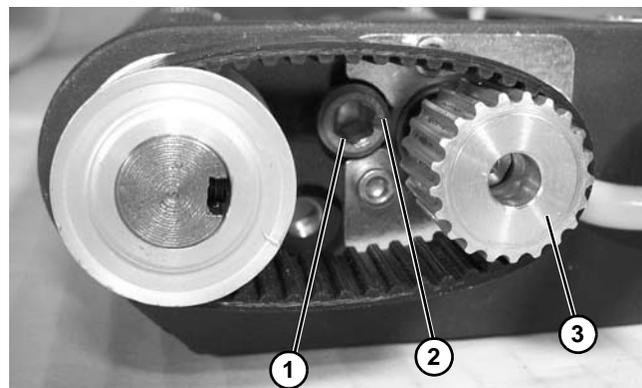
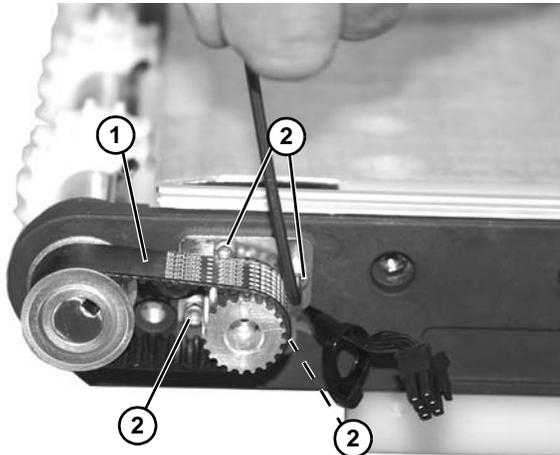

Figure 76
Figure 77
5. Tighten timing belt tension cam (Figure 76, item 1), making certain that pointer (Figure 76, item 2) on cam is pointing towards the motor drive spindle (Figure 76, item 3).
- Rotate tension cam (Figure 76, item 1) to obtain 1/8 - 1/4" belt deflection at center of belt (Figure 77, item 1) with approximately 3-5 in-lb of pressure. Tighten four clamp plate screws (Figure 77, item 2) to 15 in-lb (1.6 Nm) to secure position.